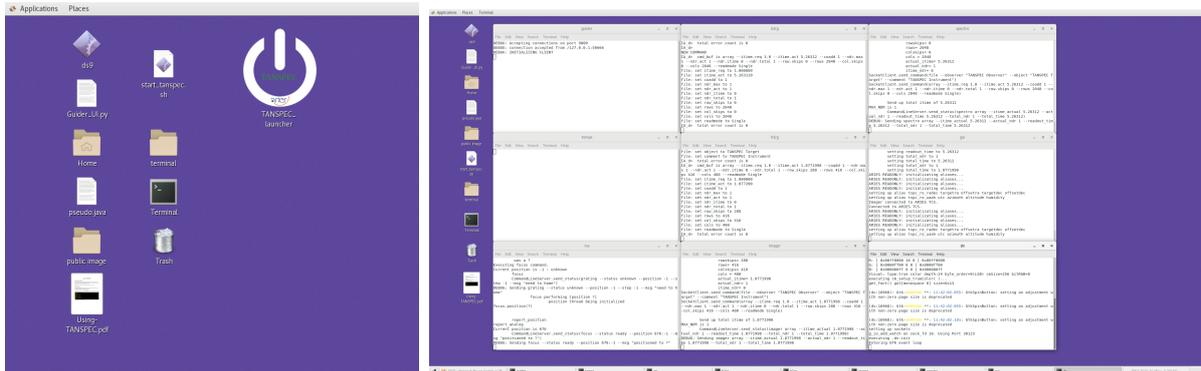

Figure 7: The left panel shows the tanspec launcher. Right panel show the terminals nine terminals opened when GUI is getting initiated.
- Double click on the TANSPEC launcher in the desktop of TANSPEC shown in Figure 7. Make sure that the terminals open in the fashion shown in Figure 7. If its opens any otherwise, close all the terminals and double click the launcher again.